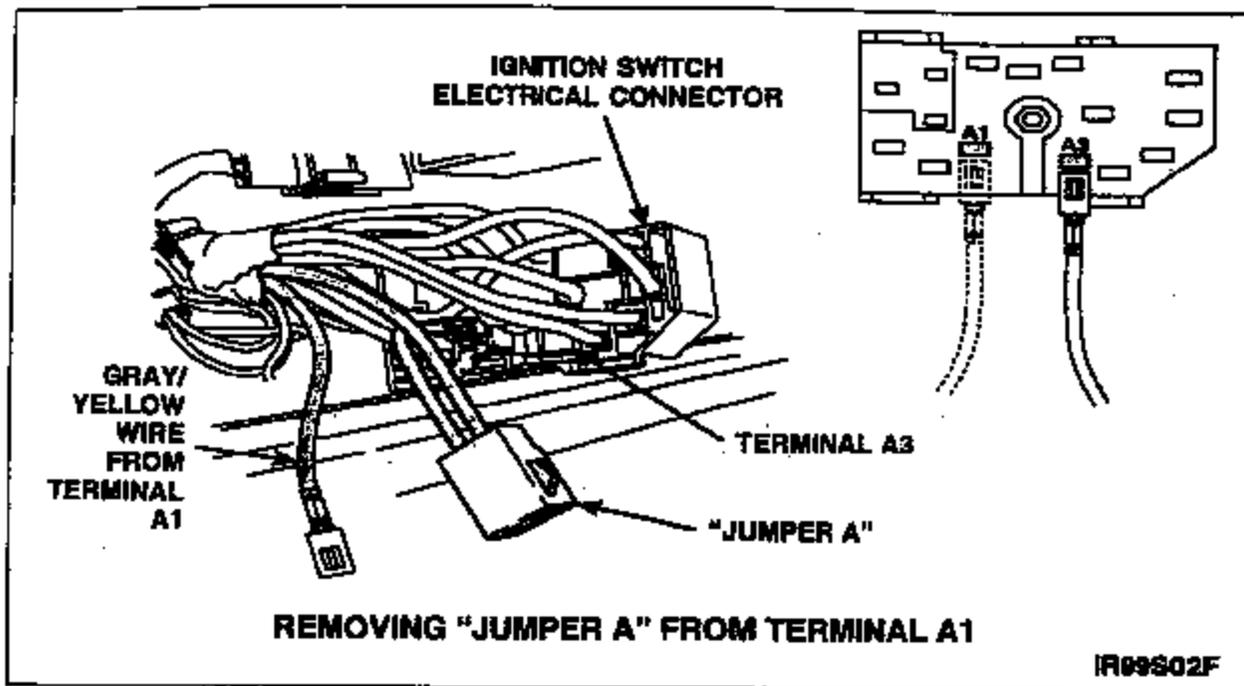

FIGURE 6
8. Remove jumper A black/light green wire from terminal A1 of the ignition switch connector and install it into terminal A3 of the ignition switch connector. See Figure 6.